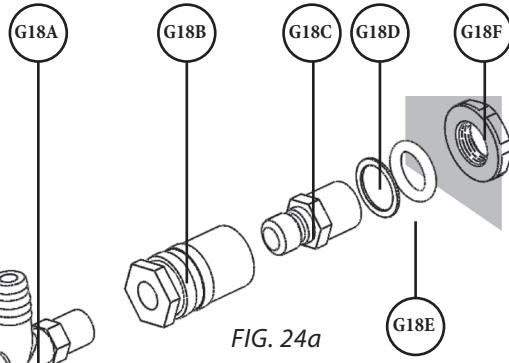

FIG. 24a
24 Install the Quick-Disconnect Kit (G18) onto the pre-drilled hole near the bottom section of the Drum (L) [FIG. 24a].